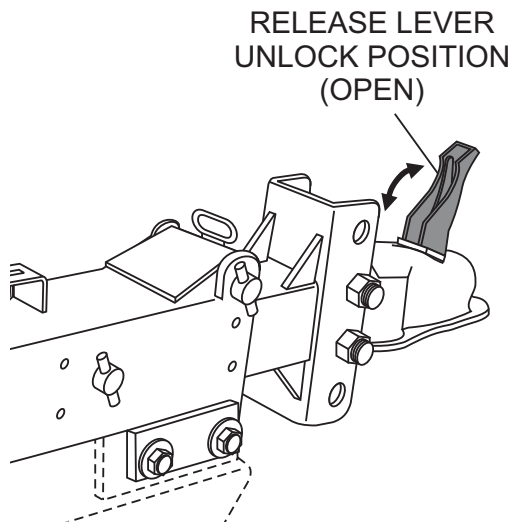

Figure 38. Trailer Hitch Release Lever
2. Hold the release lever in the open position (Figure 38).